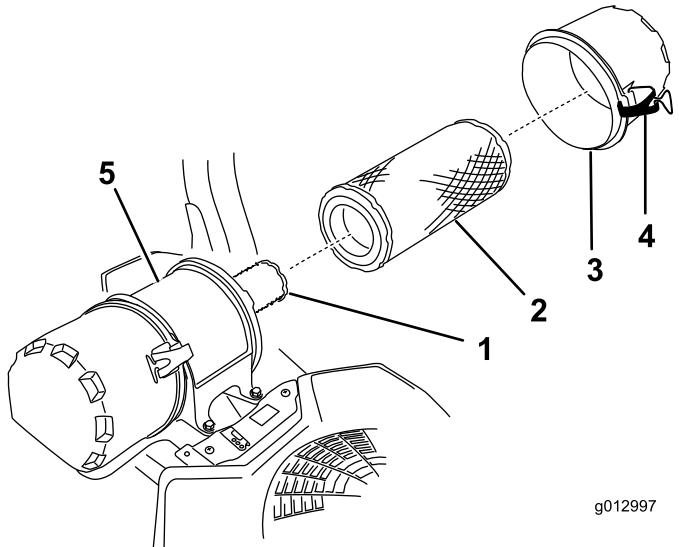

Figure 41
6. Release the latches on the air cleaner and pull the air-cleaner cover off the air-cleaner body (Figure 41).
8. Gently slide the primary filter out of the air-cleaner body (Figure 41).
2. If you are replacing the inner filter, carefully slide it into the filter body (Figure 41).
3. Carefully slide the primary filter over the safety filter (Figure 41).
4. Install the air-cleaner cover and secure the latches (Figure 41).